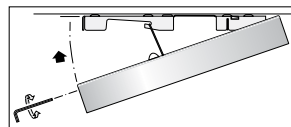

Figure 7: Canopy Closure
15. Press the luminaire into the final position and tighten the set screw using a 1.5mm hex key to properly locked in the initial position. [Figure 7]